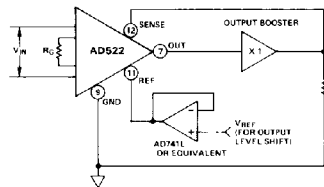

Figure 7. Output Current Booster and Buffered Output Level Shifter
**Sense Output:** A sense output is provided to enable remote load sensing or use of an output current booster. Figure 7 illustrates these applications. Being "inside the loop", booster drift errors are minimized. When not used, the sense output should be tied to the output.
**Reference Output:** The reference terminal is provided to permit the user to offset or "level shift" the output level to a datum compatible with his load. It must be remembered that the total output swing is  $\pm 10$  volts to be shared between signal and reference offset. Furthermore, any reference source resistance will unbalance the CMR trim by the ratio  $10k/R_{ref}$ . For example, if the reference source impedance is  $1\Omega$ , CMR will be reduced to 80dB ( $10k\Omega/1\Omega = 10,000 = 80\text{dB}$ ). A buffer amplifier can be used to eliminate this error, as shown in Figure 7, but the drift of the buffer will add to output offset drift. When not used, the reference terminal should be grounded.